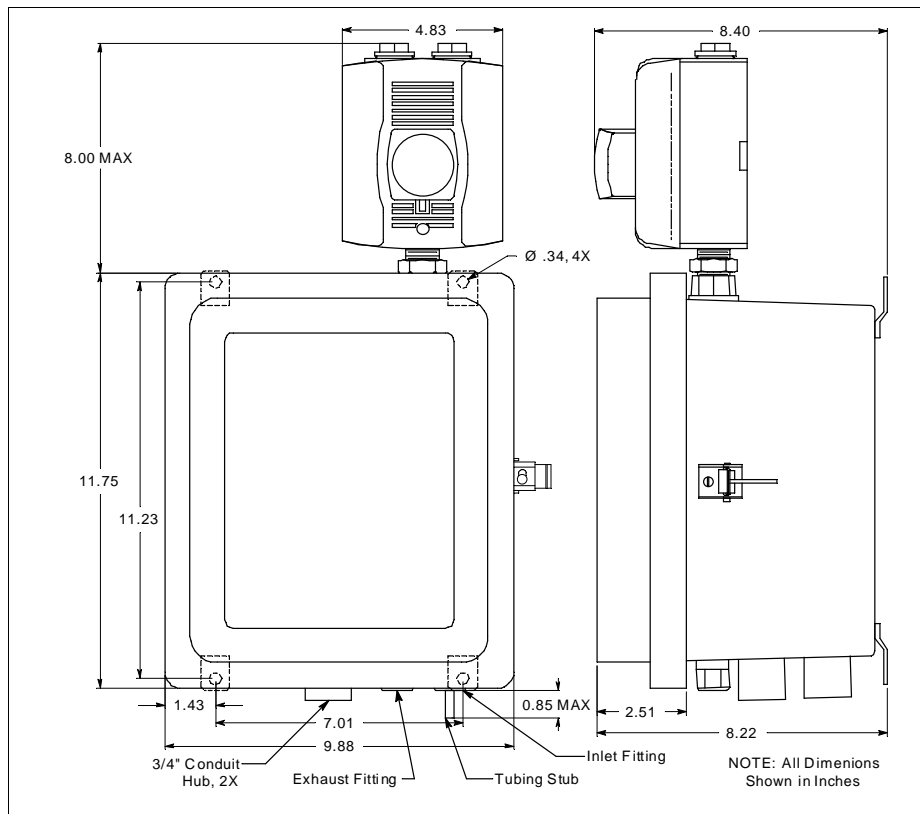

Figure 4: Outline & Mounting Dimensions
- Use four 1/4" screws through the mounting feet to mount the GD-70D4S-XX to a vertical surface. See Figure 4 for the mounting dimensions.